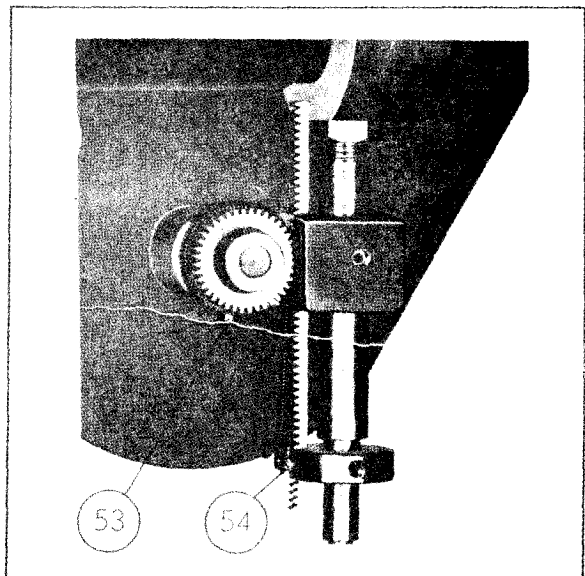

Figure 4-40. Attenuator Drive Loading Spring in Place
wise, the screw hole for the loading spring will be at six o'clock as shown by (53) in figure 4-40. The set screws for the pinion should be tightened a little at a time so that the pinion is not tilted on the shaft. Make certain the end play is not excessive. The rack should be meshed with the pinion (using the OUTPUT ATTEN control to turn the pinion) in such a way that when the OUTPUT ATTEN control is turned completely counter-clockwise the end of the rack is approximately 1/32" from the cavity block. This adjustment is a matter of trial and error.
Figure 4-40 shows the spring-loading system for the output attenuator. The output attenuator should be inserted into the probe holder until the hole in the collar mates with the hole in the rack. Secure the collar to the